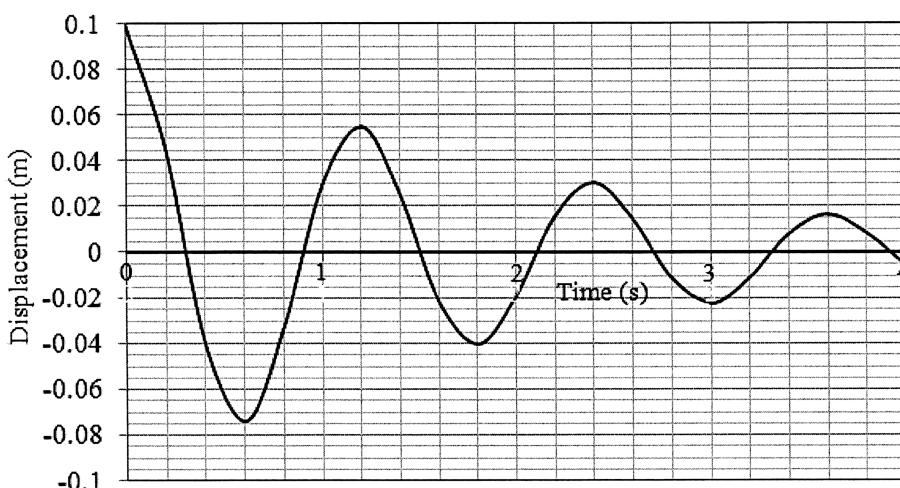

Figure 4(b)
- (i) Determine the damping ratio ( $\zeta$ ) and natural frequency ( $\omega_n$ ) extracting necessary data for this calculation from the graph in Figure 4(b). (4 marks)